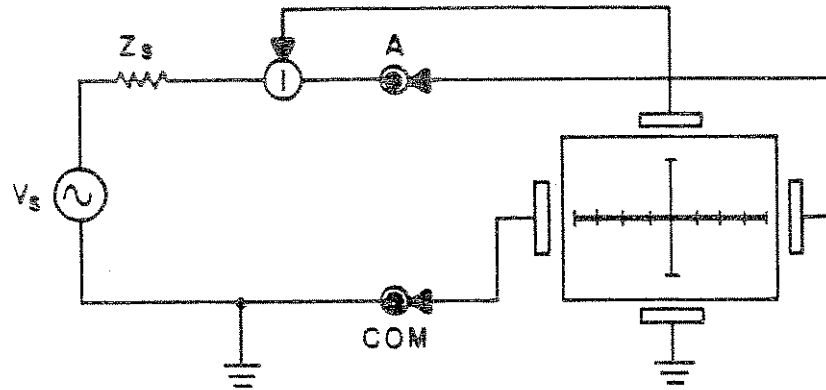

Figure 1-1. Electrical Equivalent of the Test Signal Generator
Figure 1-1 shows the electrical equivalent of the test signal generator within the Tracker 2000 and how the current through and voltage drop across the test terminals provide vertical and horizontal deflection of the signature. The test signal is provided by the signal generator and its series impedance ( $Z_s$ ). All current that passes through the test terminals to the device under test also passes through a current sensing point (I). The vertical deflection plates receive deflection voltage from this current sensing point. The amount of deflection voltage provided to the vertical deflection plates is proportional to the amount of current flowing through the device under test.